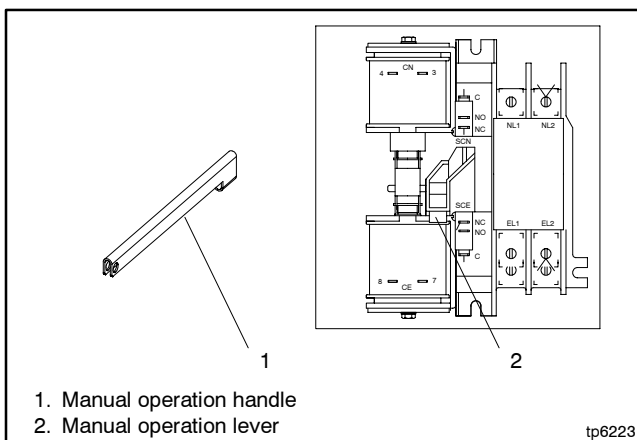

Figure 2-3 Contactor with Manual Operation Handle
4. Slide the large end of the manual operation handle over the manual operation lever on the left side of the contactor. See Figure 2-3. Move the handle up to place the transfer switch in the Normal Source position, or down to place the contactor in the Emergency Source position.